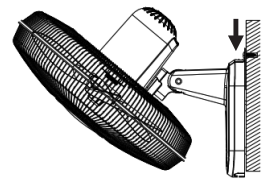

Fig. 3
6. Insert the 2 mounting holes (9) on the fan over the screw heads and slide the fan down until it hangs securely in place (Fig. 3). Tighten the mounting screws if required.